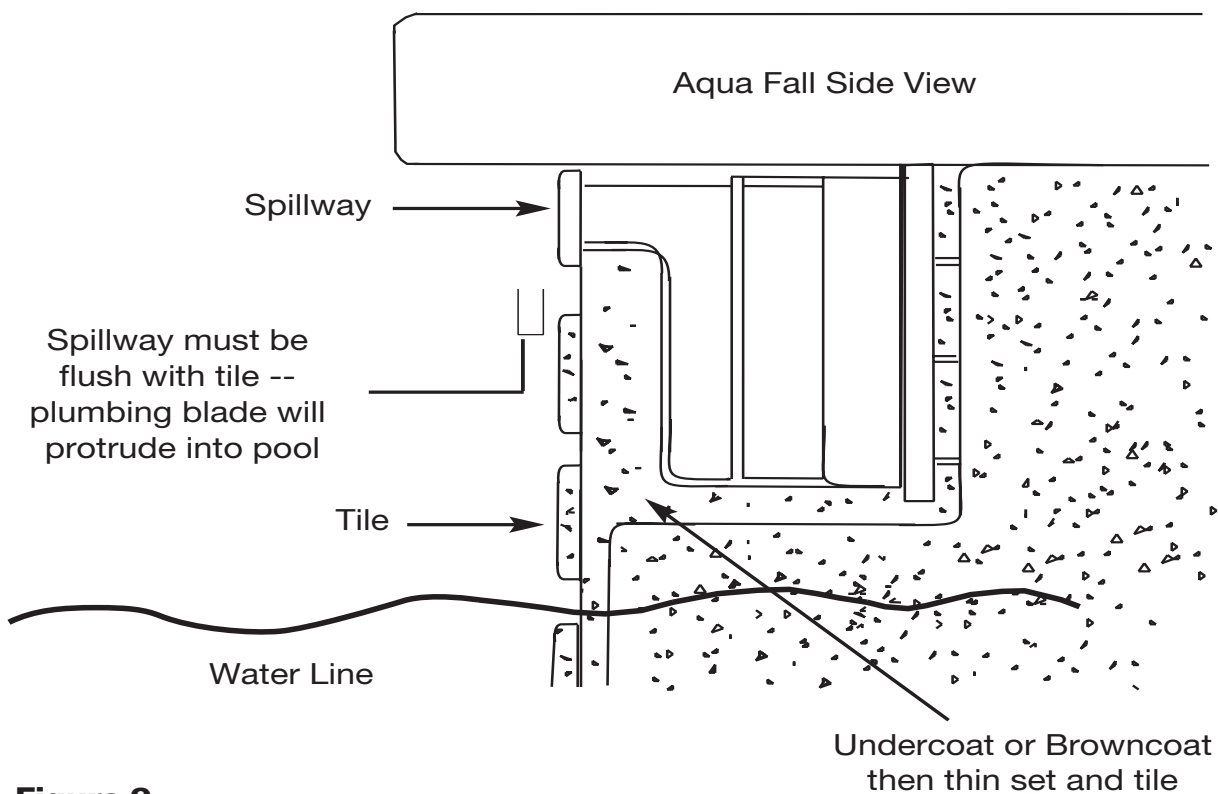

Figure 9
NOTE: The top of the Waterway Aqua Fall has the Waterway logo symbol (W). Cut the tile to fit under the "lip" of the unit and secure with "thin set" or similar compound (see Figure 9).